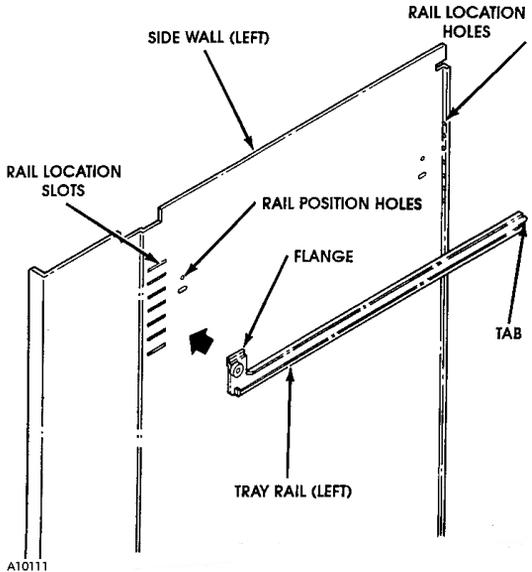

Figure 7. Tray Rail
7. Pull each rail forward to disengage its rear tabs from the hole in the rear wall. See **Figure 7**.